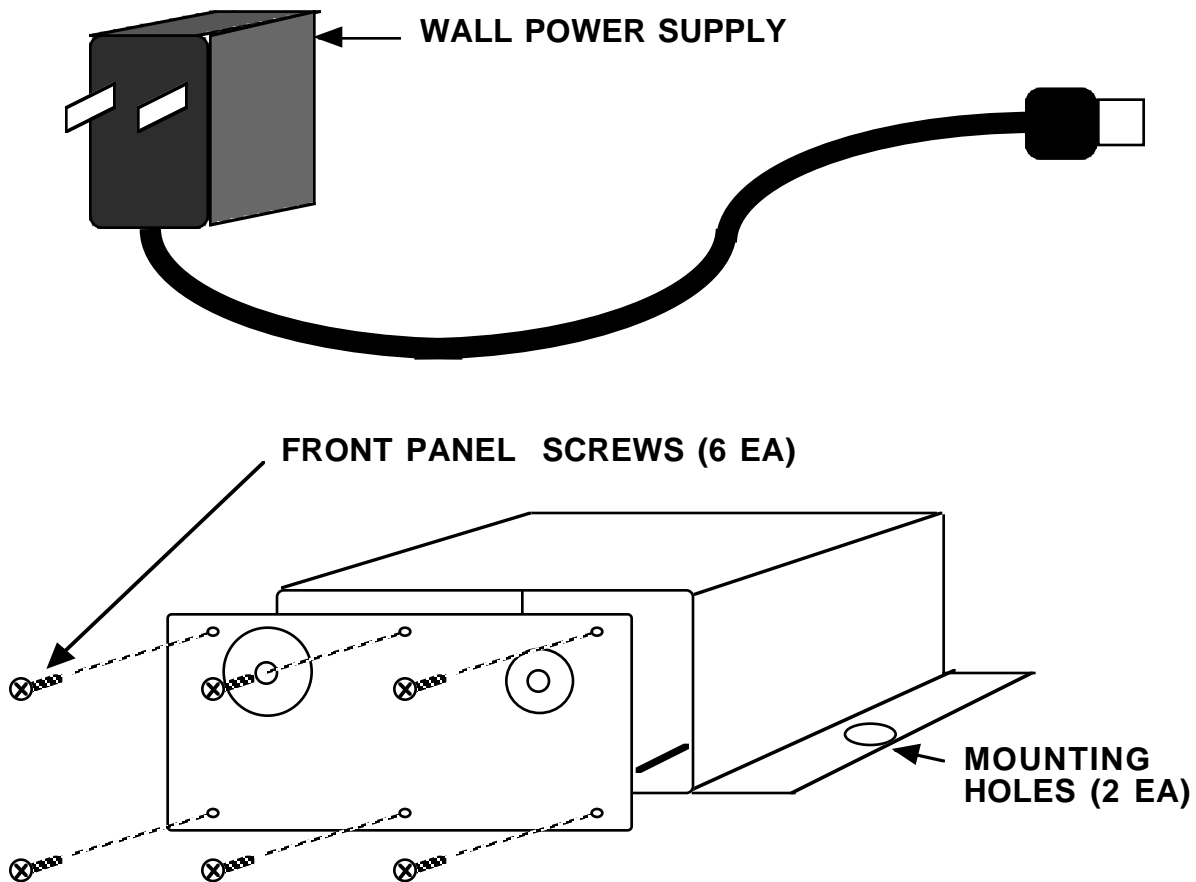

FIGURE 2.1 2098-007 ASSEMBLY DRAWING
2.1 Mechanical - The 2098-007 is packaged in an aluminum chassis. The unit can be mounted to a panel using the 2 holes at the bottom side flange. The unit derives +DC (+15 VDC, 150 ma) from a wall mount power supply. (See Figure 2.1 and Figure 2.2).
- 1.) Secure the 2098-007 to a panel using the two bottom mounting holes (see Figure 2.1 and Figure 2.2)